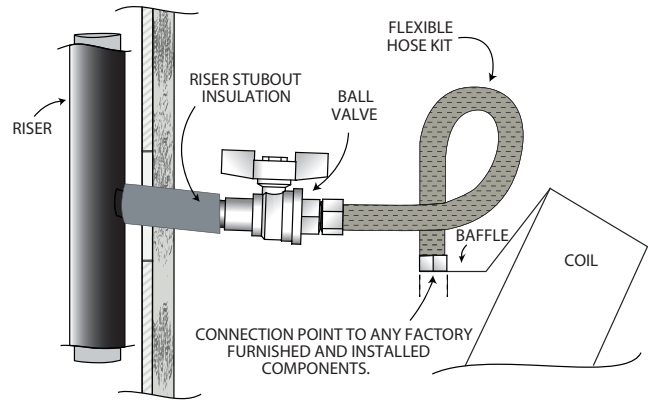

Fig. 28 — 42SM Riser to Unit Connection
4. All mega stack units use reinforced braided stainless steel flexible hose kits for piping between field-installed risers and unit water coils as shown in Fig. 28. Each hose has threaded connections on each end. The hose kits allow for riser fluctuations due to thermal expansion.